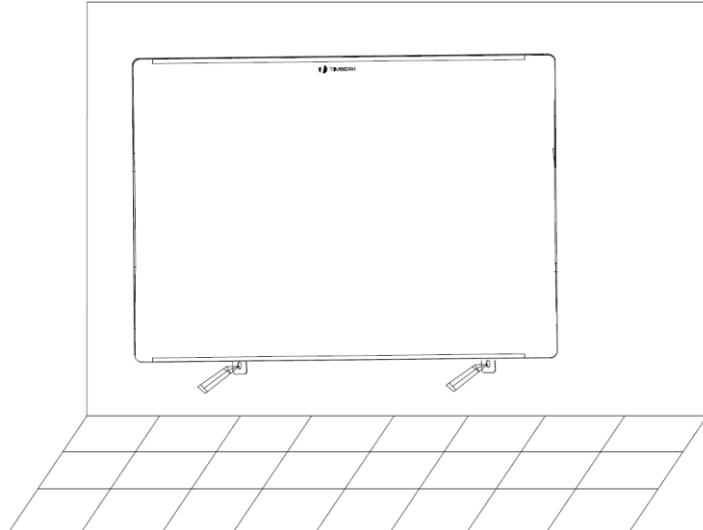

Fig. 6
6. Place the convector on the brackets. Put the markings on the wall through the holes of the fasteners (see step 5), and then remove the device from the brackets. Drill holes (drill diameter 6 mm), insert dowels (not included in the delivery set (Fig. 6)).